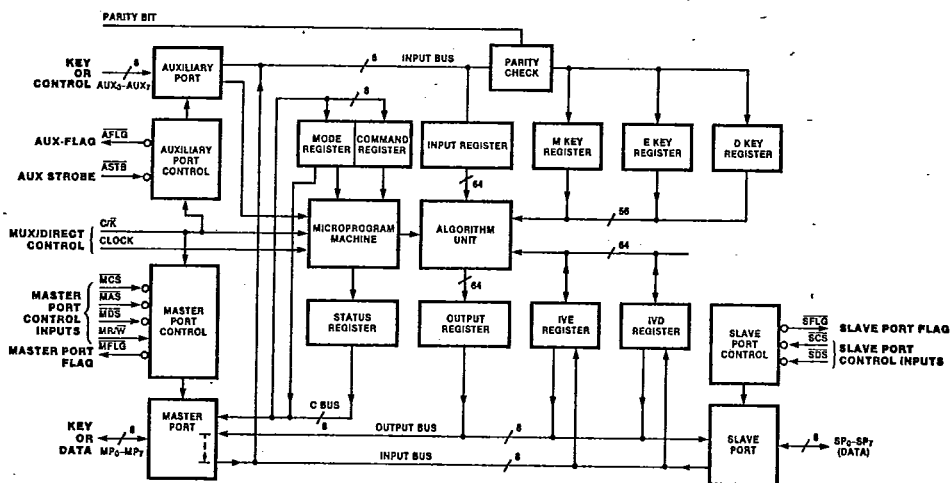

Figure 3. Z8068/Z9518 Block Diagram
The overall design of the DCP, as shown in Figure 3, is optimized to achieve high data throughput. Data bytes can be transferred through both the master and slave ports, and key bytes can be written through both the auxiliary and master ports. Three 8-bit buses (input, output and C bus) carry data and key bytes between the ports and the internal registers. Three 56-bit, write-only key registers are provided for the Master (M) Key, the Encryption (E) Key and the Decryption (D) Key. Parity checking is provided on incoming key bytes. Two 64-bit registers are provided for initializing vectors (IVE and IVD) that are required for chained (feedback) ciphering modes. Three 8-bit registers (Mode, Command and Status) are accessible through the master port.
**Algorithm Processing.** The algorithm processing unit of the DCP (Figure 3) is designed to encrypt and decrypt data according to the National Bureau of Standards' Data Encryption Standard (DES), as specified in Federal Information Processing Standards Publication 46. The DES specifies a method for encrypting 64-bit blocks of clear data ("plain text") into corresponding 64-bit blocks of "cipher text."